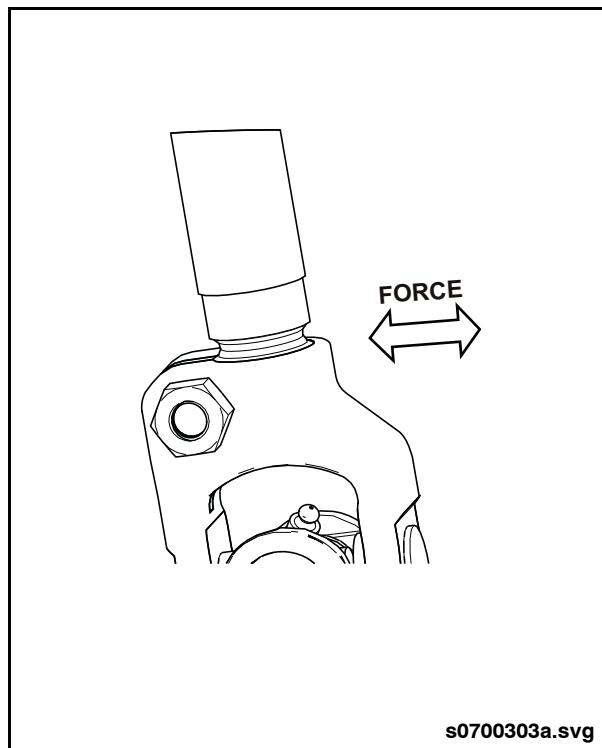

Fig. PM-10: Steering Driveshaft End Yoke Inspection
- a. Apply lateral side to side force on each end yoke and note the deflection in the area where the end yoke splines are clamped to the attaching component. See "Fig. PM-10: Steering Driveshaft End Yoke Inspection" on page 33.